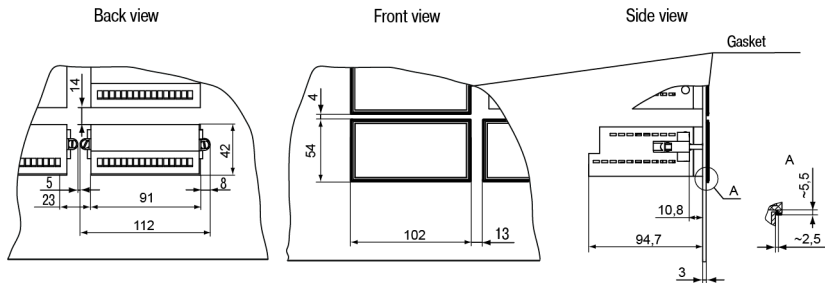

Figure 4.8 – Device in $\square 2$ housing mounted in the control panel with 3 mm thickness
1. Prepare a place for mounting on the control panel (see *Figure 4.8*).